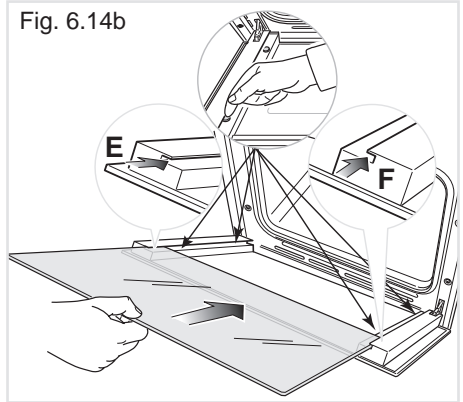
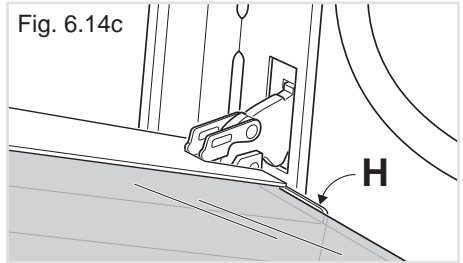

Fig. 6.14b
Fig. 6.14c
- IMPORTANT:** It is advisable, while refitting the glass, to keep pressed in position the four rubber pads “D”, by a finger, to avoid breakage or slippage of the rubber pads themselves (fig. 6.14b).
- Insert the pane in the left “E” and right “F” slide guides (fig. 6.14b), and gently slide it to the retainers “H” (fig. 6.14c).